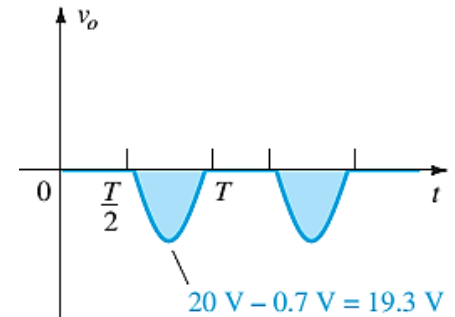

FIG. 2.51
b. For a silicon diode, the output has the appearance of Fig. 2.51, and